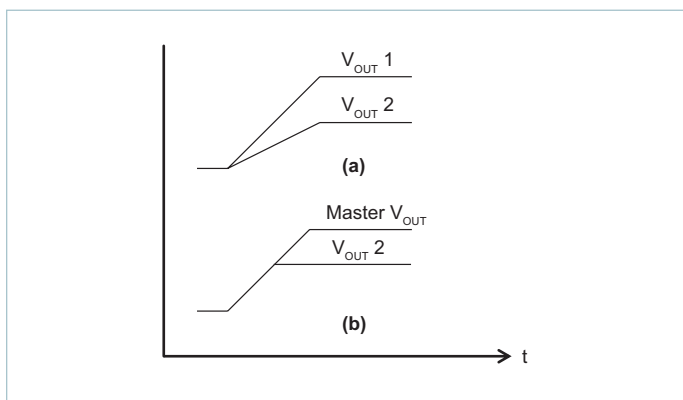

Figure 28 — PI33xx-x1 tracking methods
There is typically either proportional or direct tracking implemented within a design. For proportional tracking between several regulators at startup, simply connect all devices' TRK pins together. This type of tracking will force all connected regulators to startup and reach regulation at the same time (see Figure 28(a)).
All connected regulators' soft-start slopes will track with this method. Direct tracking timing is demonstrated in Figure 28(b). All tracking regulators should have their Enable (EN) pins connected together to work properly.